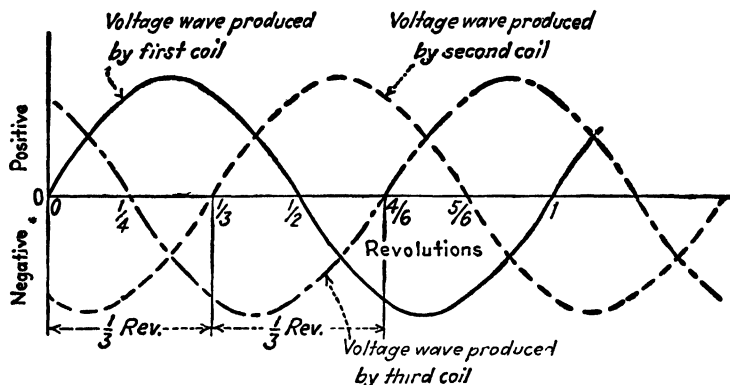

FIG 1-36 Voltage waves of three-phase generator. The corresponding zero values are one-third revolution apart
**Three-phase Generator.** It is not difficult to picture three coils or loops equally spaced on the shaft as were the two coils of the two-phase generator. If such a machine were built with three coils and three pairs of collector rings, one would obtain three alternating voltages in the three circuits, but each of these voltages would be a little ahead of the others (see Fig. 1-36). Such a machine would then be called a "three-phase generator of alternating currents." And if the machine were of the simple type with only two poles, the frequency of the alternations or the cycles per second would again be equal to the revolutions per second. Such a machine would have six slip rings and six wires leading from it, making up the three circuits.